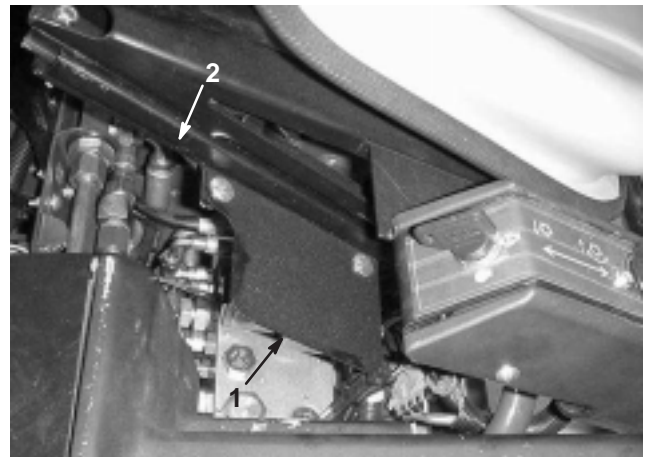

Figure 7
7. Mount valve shield to the right side of the seat base with 2 carriage bolts (5/16 x 5/8 in.) and nuts. Position the shield as shown in Figure 7.